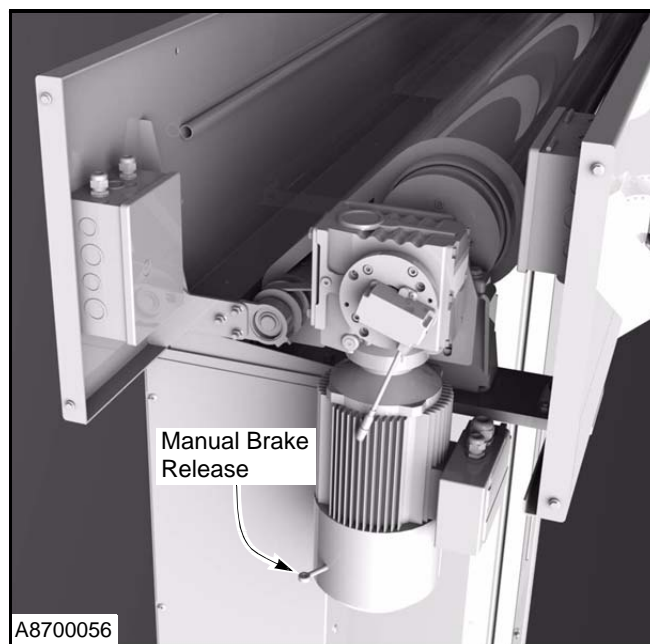

Figure 28
1. Release the motor brake by pulling on the brake release cable. Then manually move the door to the fully closed position. (See Figure 28)